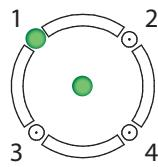

Fig. 4.2
- Once connected to the Base Station, the LED in the middle of the circle on the transceiver front illuminates to indicate it is turned on. One of the outer LEDs (numbered 1 to 4) around the circle also turns on (depending on which port the Transceiver is connected to on the Base Station, Fig. 4.2 shows the RT7000 connected to the first port (J3200) also see Table 1). This outer LED will initially flash a Magenta, blue or yellow color (see Table 2) as the Transceiver scans for available channels before turning solid green once a channel is found. (On the Base Station HOME screen, the Transceivers' indicator is yellow while scanning before turning green.)
Station, Fig. 4.2 shows the RT7000 connected to the first port (J3200) also see Table 1). This outer LED will initially flash a Magenta, blue or yellow color (see Table 2) as the Transceiver scans for available channels before turning solid green once a channel is found. (On the Base Station HOME screen, the Transceivers' indicator is yellow while scanning before turning green.)